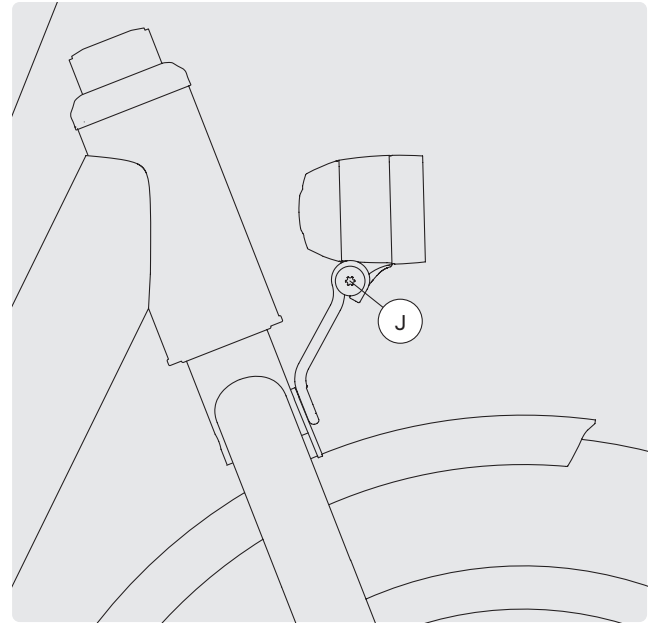

FIG. 50
- 1 Loosen the adjustment screw J on the front light. (Fig. 50).